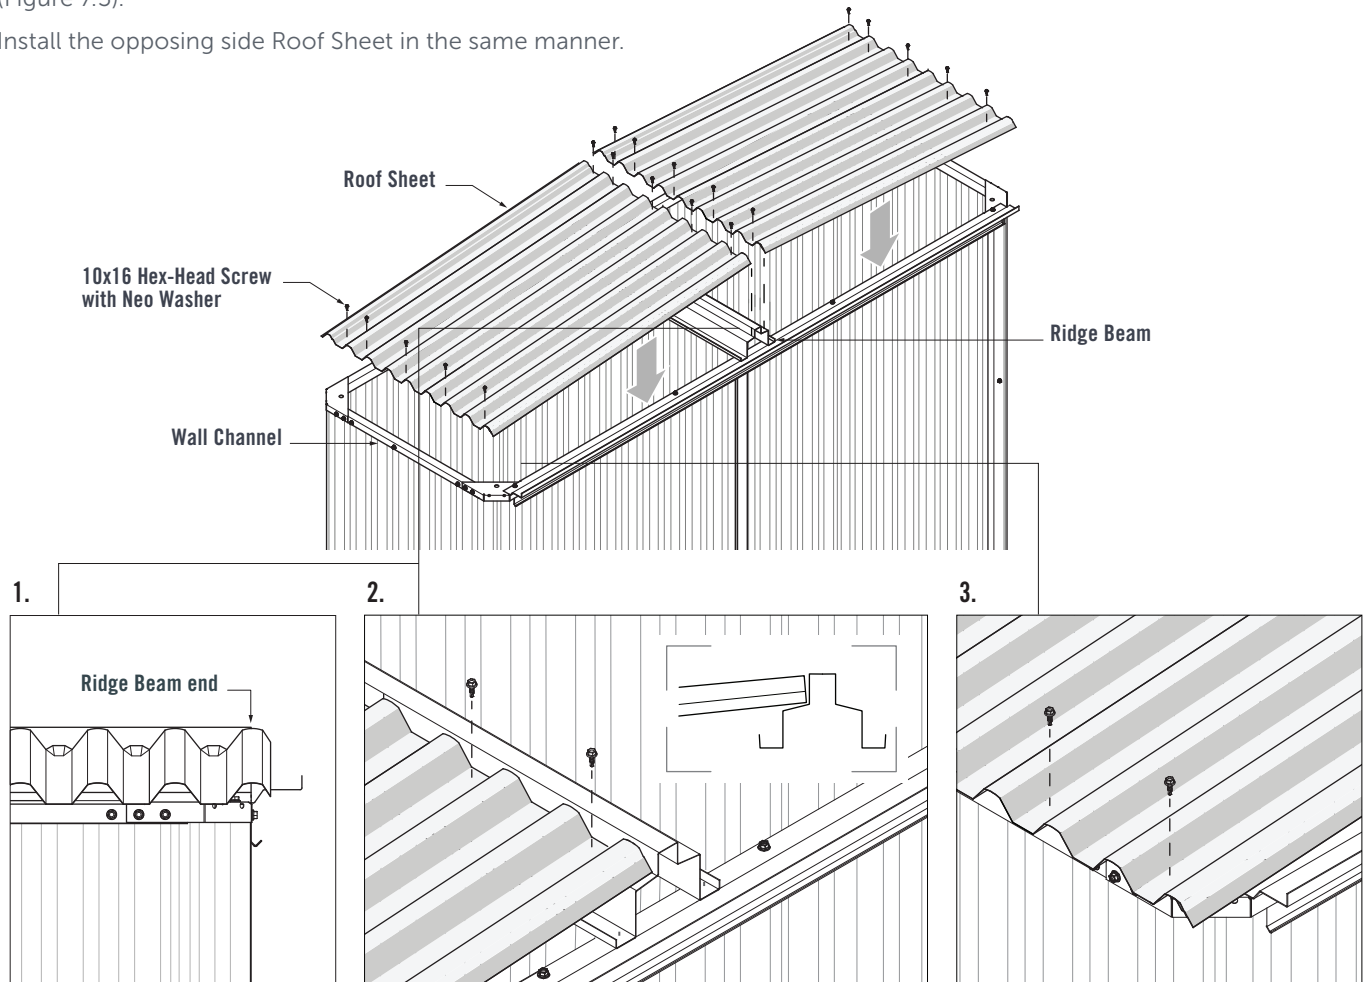

FIGURE 7.3
Lay a Roof Sheet onto the Ridge Beam and Wall channel, ensuring the overlap end of the Roof Sheet is facing the front of the shed (Figure 7.3).
1. Ensure the middle of the Roof Sheet crest is in-line with the end of the Ridge Beam (Figure 7.3)
2. Ensure the Roof Sheet is hard against the step of the Ridge Beam. Fasten five 10x16 Hex-Head Screws with Neo Washers through the pans of the Roof Sheet and into the Ridge Beam (Figure 7.3).
3. Fasten five 10x16 Hex-Head Screws with Neo Washers through the pans of the Roof Sheet and into the Wall Channel (Figure 7.3).